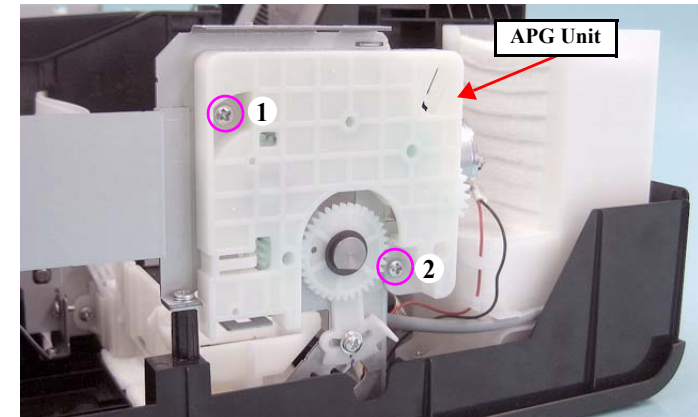

Figure 4-55. Removing the APG Unit
- Tighten the screws in the order given in Fig.4-55 \(p.78\).